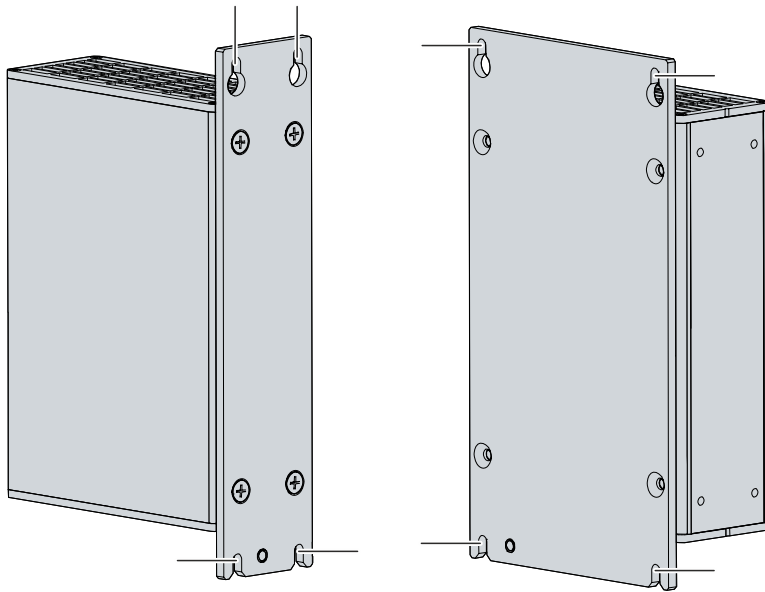

Fig. 16: C6915_Dismantling the control cabinet
2. Lift the PC far enough so that the mounting screws slip into the keyholes (see fig. 16).